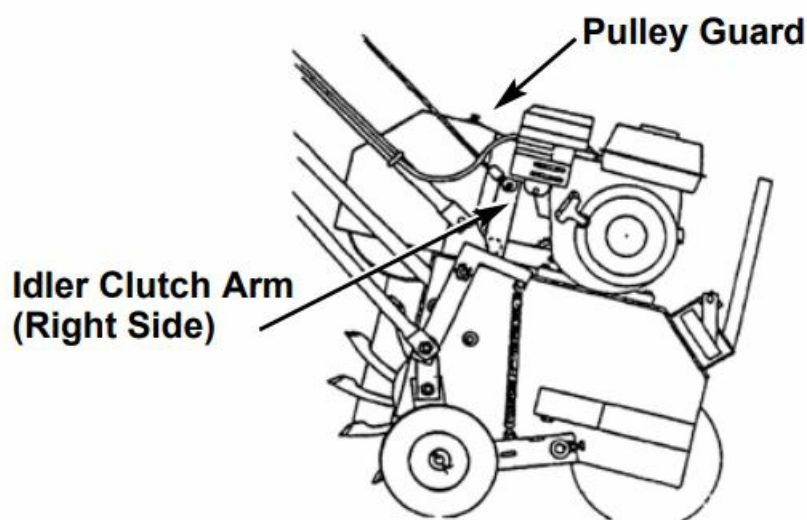

Fig. 2
TA-25D – Qty. 4, one in each wheel assembly and one in each idler/clutch arm pivot bearing. (See Fig. 2.)
2. Take off pulley guard (see Fig. 2) by removing bolts, etc. which attach it to the frame.